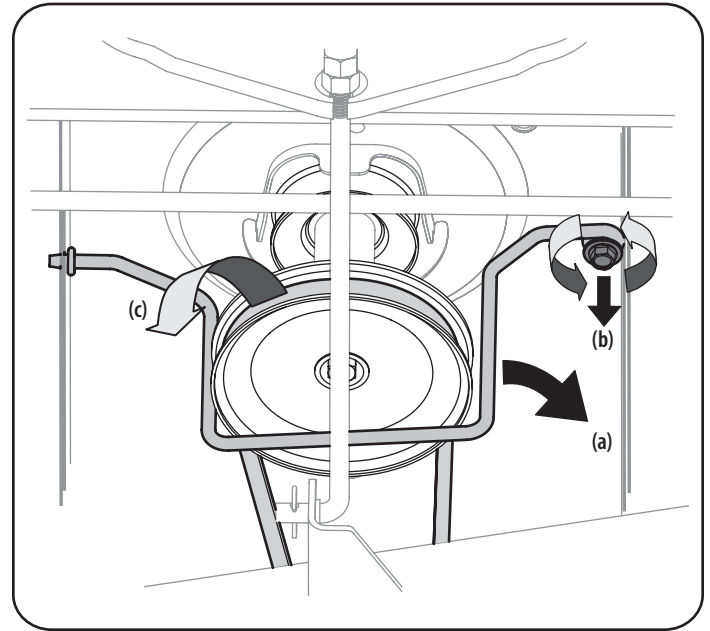

Figure 11
3. Remove the belt-keeper rod (a), from around the tractor's engine pulley, by removing the self-tapping screw (b) that secures it. See Figure 11.
4. Remove the belt (c) from around the tractor's engine pulley and idler pulley(s). See Figure 11.